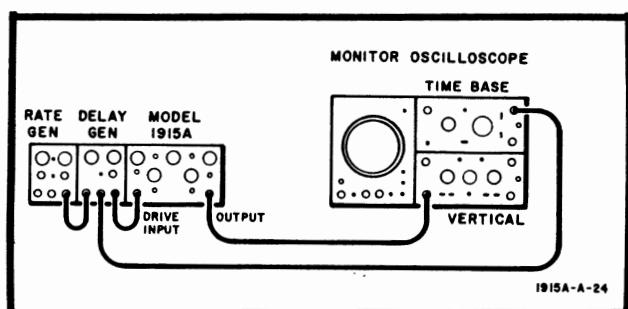

Figure 5-1. Amplitude Test Setup
- Connect equipment as shown in Figure 5-1.